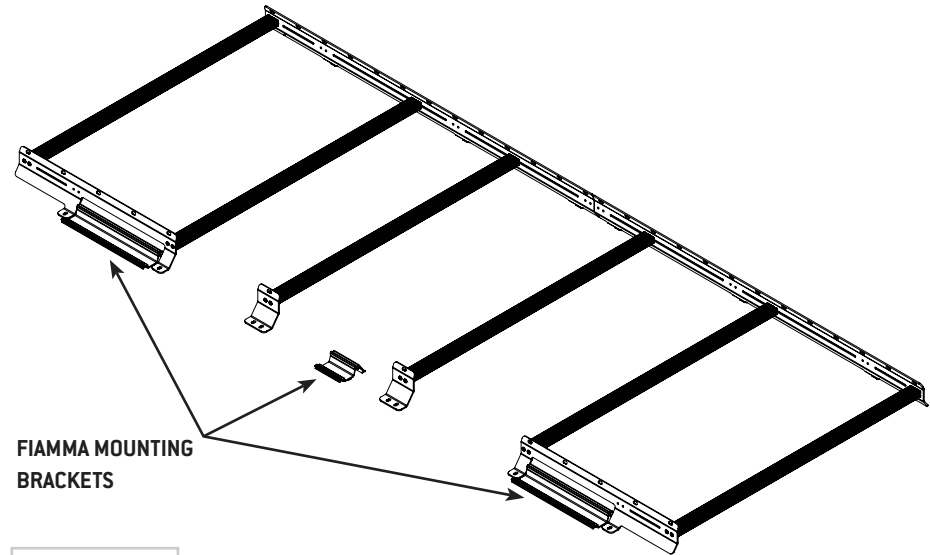

FIG 4
1.3 Layout Center F80 Brackets: Grab your **Center Brackets** and space them out in between the **Front And Rear Brackets**. **FIG 4 and 5** depict an example layout of **F80 Brackets** with the **Low Pro Roof Rack**. We show two center brackets installed, but use as many as needed as long as they don't interfere with your **Fiamma Mounting Brackets**. Loosely attach to the roof rails using the **3/8-16" Button Head Screws & 3/8" Lock Washers**.